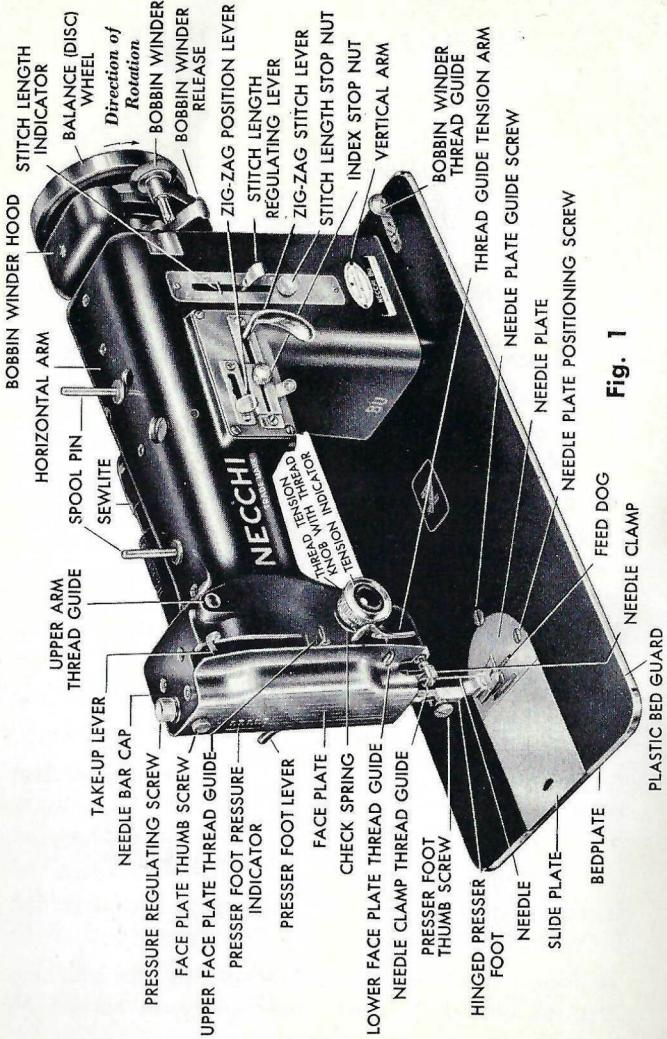

Fig. 1
- Remove face plate thumb screw (Fig. 1), near upper portion of face plate, remove face plate, and put one drop of oil into each of the oil holes and joints. Replace face plate and tighten thumb screw.
a. Bring needle to its highest position by turning balance wheel toward you (Fig. 1).
a. Raise presser foot by raising presser foot lever (Fig. 1, page 14).
b. Move slide plate (Fig. 1, page 14) to extreme left.
(See Fig. 1, page 14 for reference.)
- a. Bring needle up to its highest position by turning balance wheel toward you (Fig. 1).
- a. Turn balance wheel (Fig. 1) toward you until take-up lever reaches its highest position.